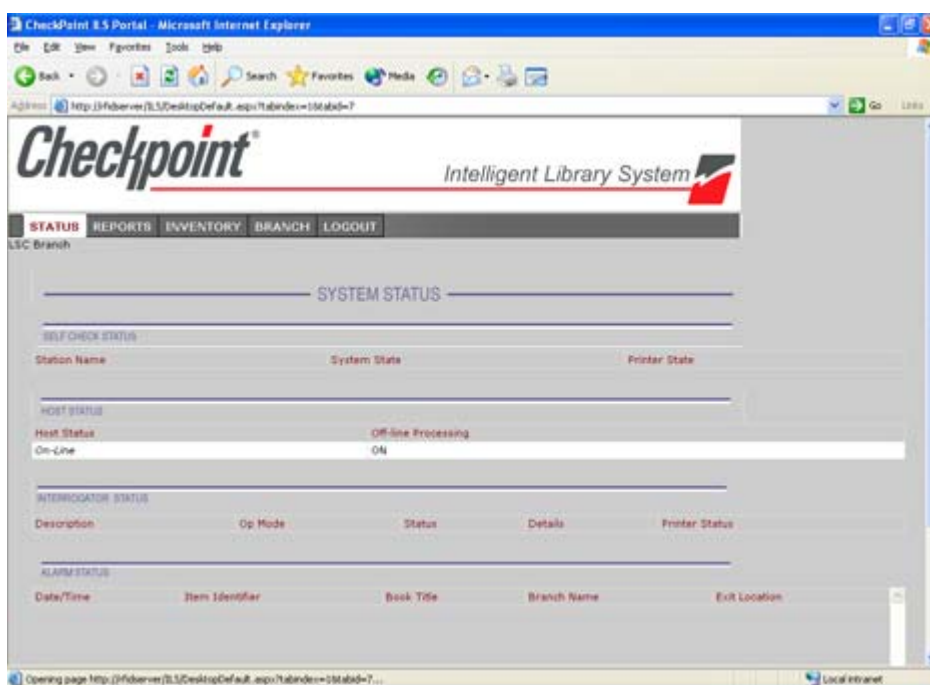

Figure 5.7 ILS Remote Monitor main window
- 3 Enter your ILS Remote Monitor user name and password. The ILS Remote Monitor utility displays (Figure 5.7).
- 4 Enter your ILS Remote Monitor user name and password. The ILS Remote Monitor utility displays (Figure 5.7).